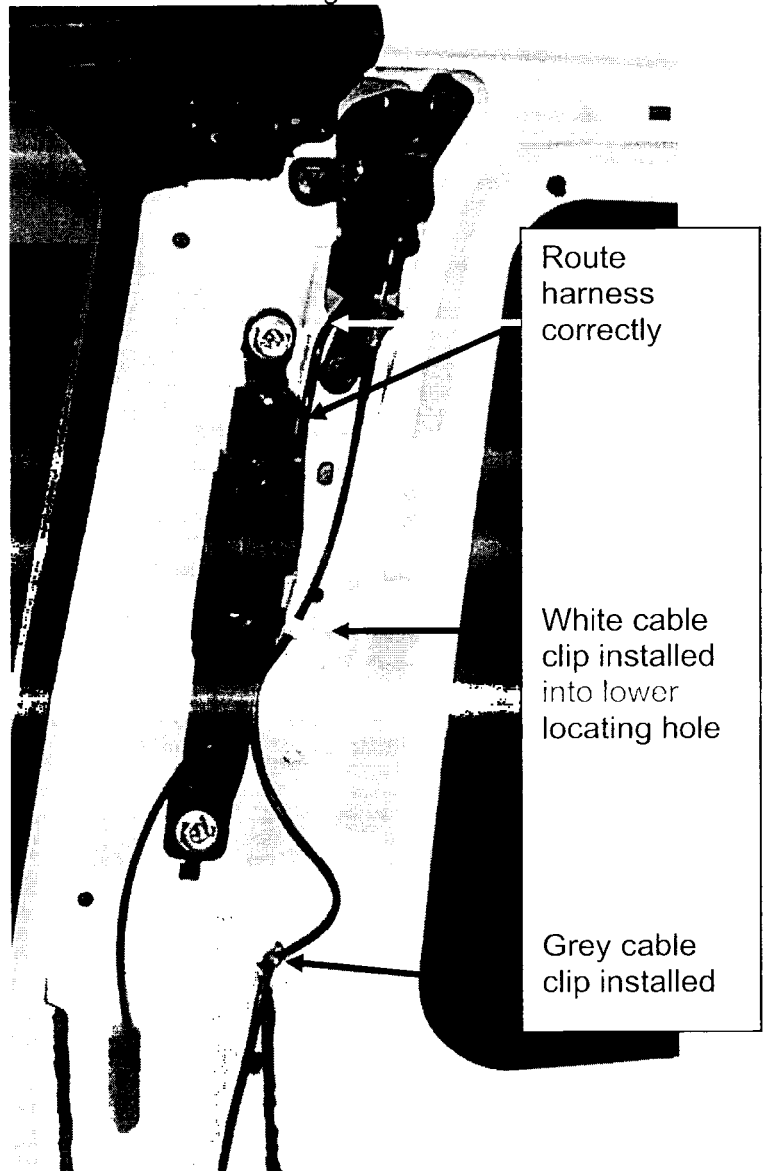

Figure 12
NOTE: Use the lower locating hole (see Figure 12).
17. Reinstall upper door latch grey cable clip into door (See Figure 12).